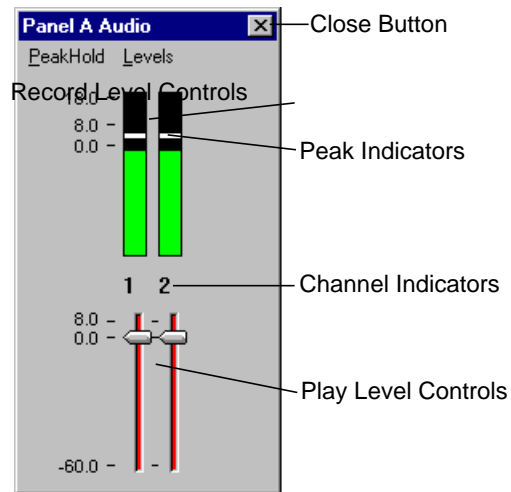

Figure 90. Audio Monitor dialog box
2. Choose **Window | Audio Monitor**. The Audio dialog box appears, as shown in Figure 90. There are only two channels in this example, but up to 32 channels are possible if the necessary boards are installed.